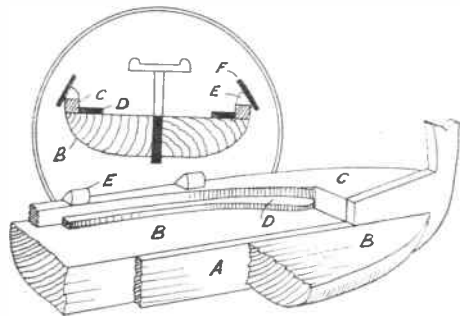

Fig. 2—A section and cut-away view of hull
Both pieces are now to be shaped with rasp, file and glasspaper to the section shown on the pattern sheet and in the two diagrams given in Fig. 2. The larger of these two diagrams gives in section form the various pieces as they are glued up and shaped to form the hull of the ship. The circled diagram in Fig. 2 gives a midship cross section of the hull, with the upper deck pieces attached and the true position of the shields and their fixing blocks.
cut. The remainder of the circles completing each shield will afterwards be drawn in or slightly recessed with the carving tool. The shields are held to the sides of the ships by the shaped blocks (E), cut $\frac{3}{8}$ in. long from $\frac{3}{16}$ in. square blocks rounded at one angle, as seen in Fig. 2.